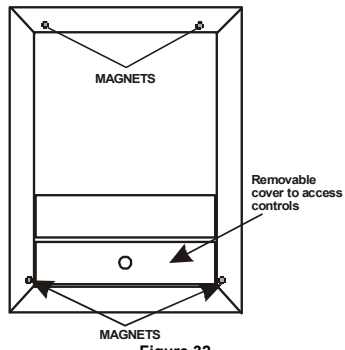

Figure 32
2. The fascia is held on by four magnets. These will either be attached to the trim or supplied loose in a separate envelope. Position them as shown in **Figure 32**.